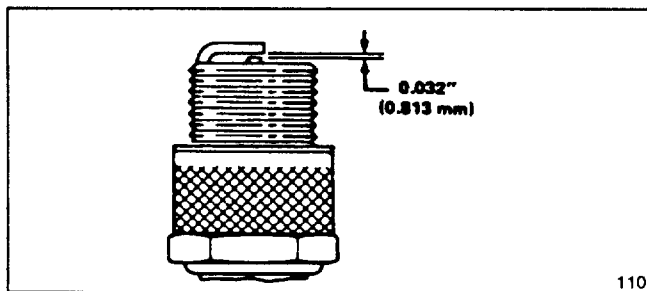

Figure 19
3. Set air gap at 0.032" (0.81 mm) (Fig. 19). Install correctly gapped spark plug and gasket seal. Tighten plug firmly to 10 ft-lb (13.6 N·m).